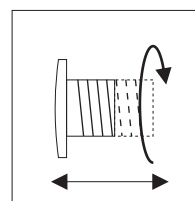

Figure 2
5. Adjustable stopper – (figure 2) used for establishing the device length in compliance with the wall thickness.